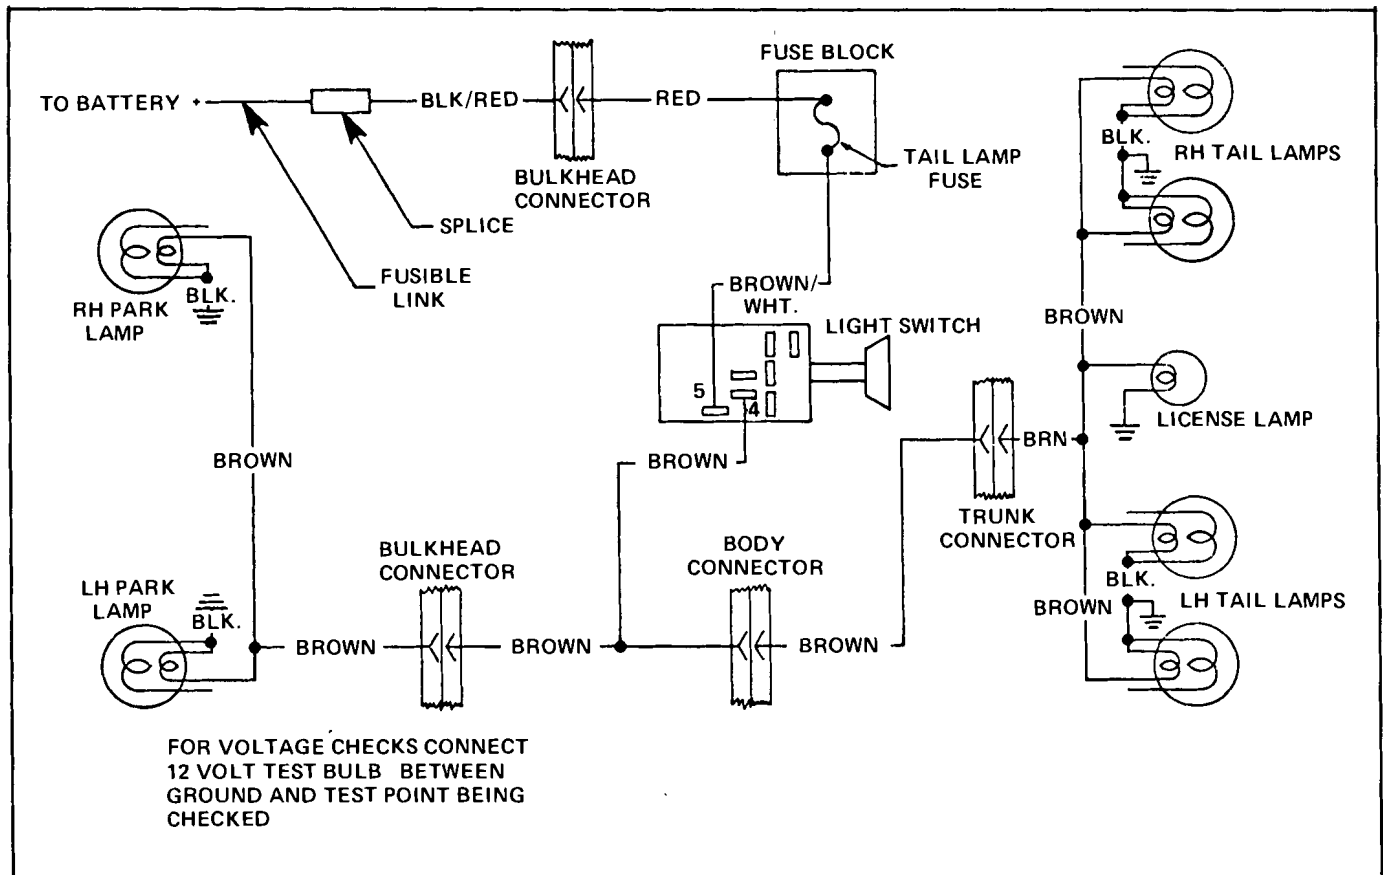

Fig. 12-21 Tail, Park or License Lamp Circuit
*See tail lamp circuit (Fig. 12-21).